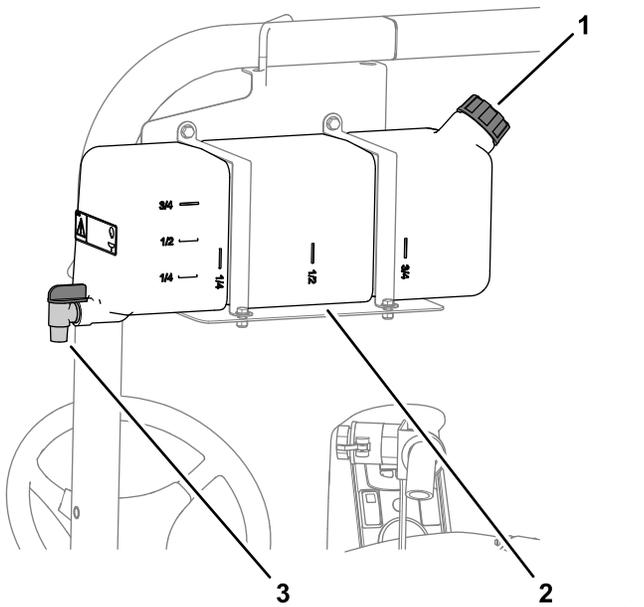

Figure 19
- To fill the tank, unscrew the cap at the top of the tank, fill the tank with fresh water, and install the cap (Figure 19).
- To open the fresh-water tank spigot, turn the lever on the spigot (Figure 19).